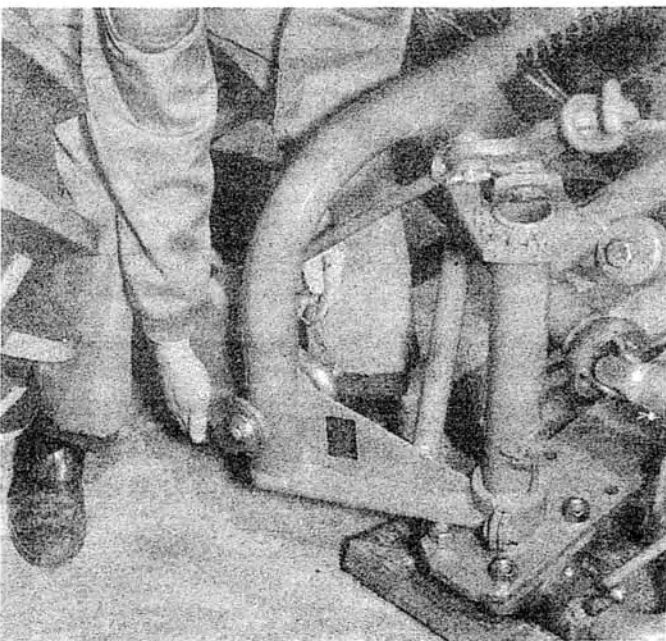

Fig. 13 - Attaching Left Link
ment the mower is held in an upright position by placing a block transversely under the base frame, as in Fig. 13. The block should not be too high, just enough to level the frame and hold it clear of the ground.
2. Push the left link onto the left hitch pin (see Fig. 13) and lock with the lynch pin. The